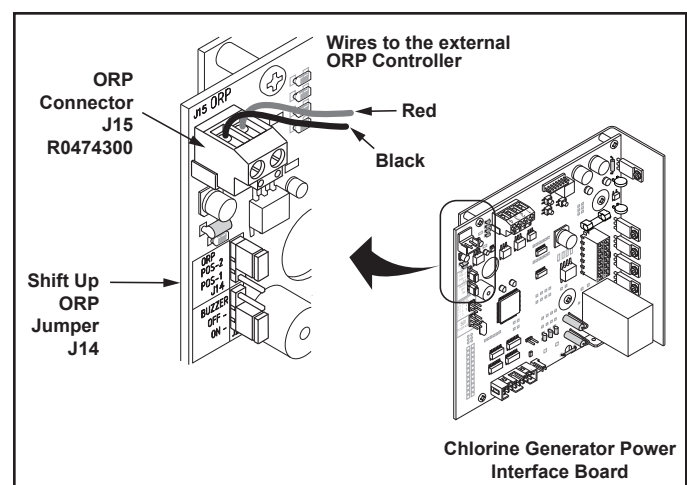

Figure 6. ORP Connection
To connect the TruDose Chemical Controller to a Jandy saltwater chlorinator, you will need to connect the preinstalled 24VDC cable from the TruDose Chemical Controller to the Power Interface Board (PIB) in the saltwater chlorinator power pack. The ORP Jumper on the Saltwater Chlorinator power pack PIB board will need to be moved to Position 2. See Figure 6 for instructions how to move the ORP Jumper to Position 2 on the power pack PIB.
2. Move the ORP Jumper from the two bottom pins to the two top pins. See Figure 6.
3. Connect the TruDose 24VDC cable to the dedicated 2-pin connector J15 on the AquaPure power center PIB. See Figure 6.
**NOTE:** The black wire must be connected to the left and the red to the right. See Figure 6.